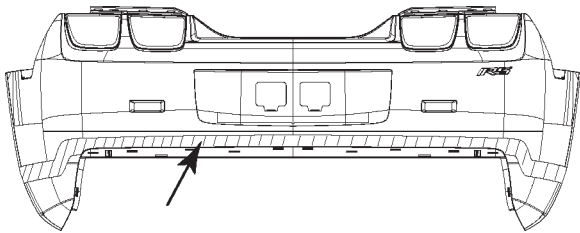

FIGURE 14
24. Wipe highlighted region of vehicle with provided alcohol wipes. Let dry. Refer to figure 14.